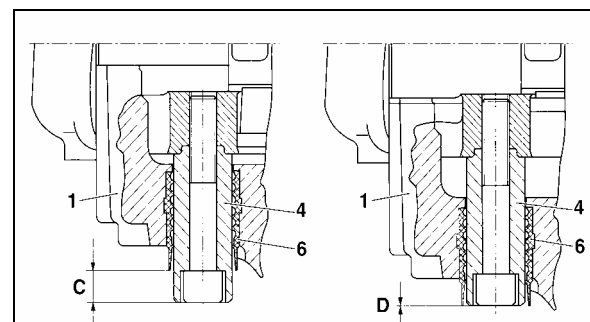

FIGURE 27: BRAKE PAD CHECK 12117
The pad thickness can be seen but would require removal of the tire and rim. An indicator of the pad wear condition is available by inspecting the floating pin location in relation to the rubber bushing as shown in figure 27. When pads are in new thickness condition, the pin will be exposed (C) 19 mm (3/4"). When the pads are worn to replacement conditions, the pin will be nearly flush to the bushing (D) or within 1 mm (3/64") of the edge of the rubber bushing.